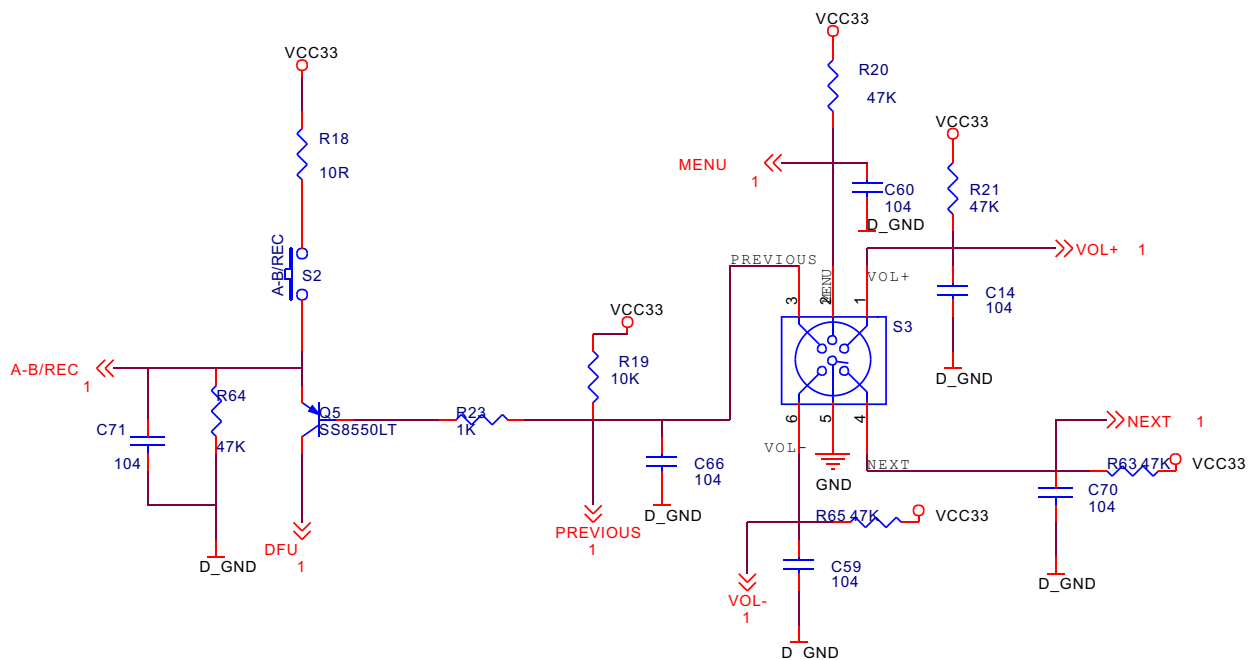

Figure 3.2.5.1 Buttons circuit schematic diagram
1. Buttons circuit is shown in the figure 3.2.5.1: